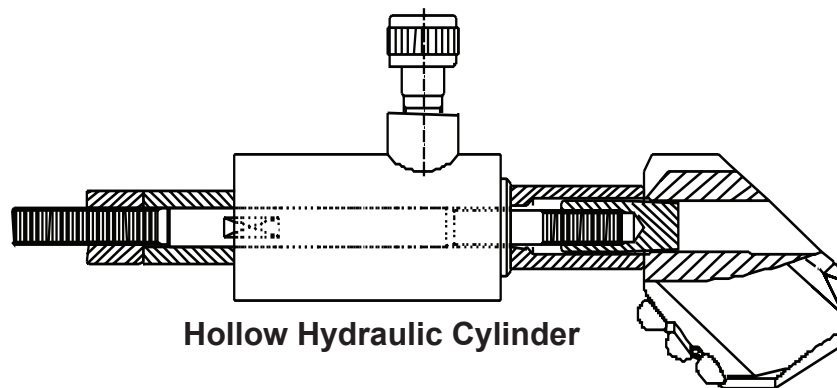

Figure 4. Retracting Pins with Hollow Hydraulic Cylinder
2. Simply unscrew the plastic plug to expose the threaded hole. Screw a threaded rod of appropriate length into the threaded hole in the Pin. Using either a slide hammer or a hollow hydraulic cylinder pull the Retention Pin out of the Wing. On some bits, NUMA offers a custom designed pulling system, that includes a fixture pad, threaded rod and accessories, hollow hydraulic cylinder and pump. **(Figure 4)** Contact your NUMA representative or distributor for more information.